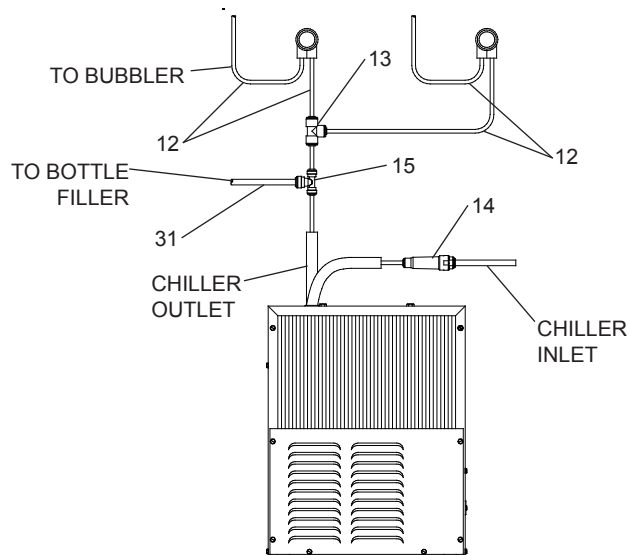

Figure 2 - EZWS-ERP Tube Routing
- 3a. (For EZWS-ERPBM28K) **Install** strainer on the input tube to the chiller (Fig. 2).